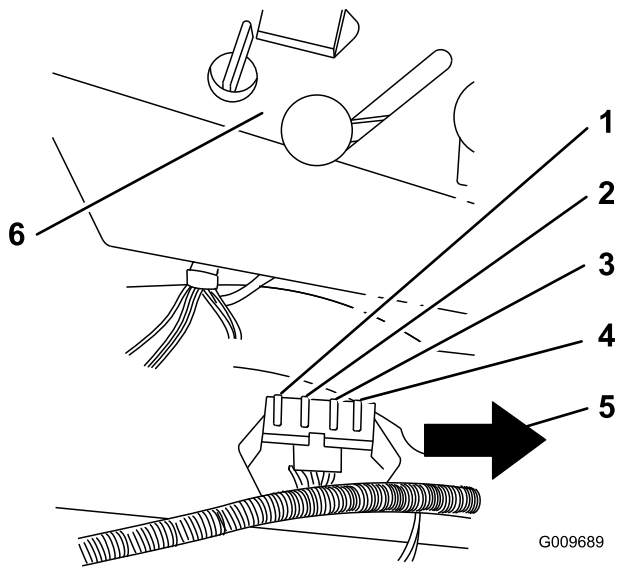

Figure 44
- Raise the seat to gain access to the fuse holder (Figure 44).
- Install a new fuse (Figure 44).